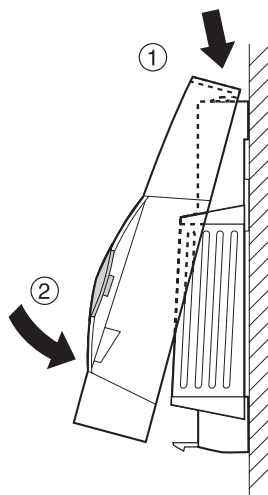

Fig. 12: Placing housing cover in position
- ▶ Place the housing cover in position above and snap it down (see Fig. 12).
- ▶ Place the housing cover in position above and snap it down (see Fig. 12, Page 6).
- ▶ Place the housing cover on at the top and latch it in downwards (see Fig. 12, Page 6).